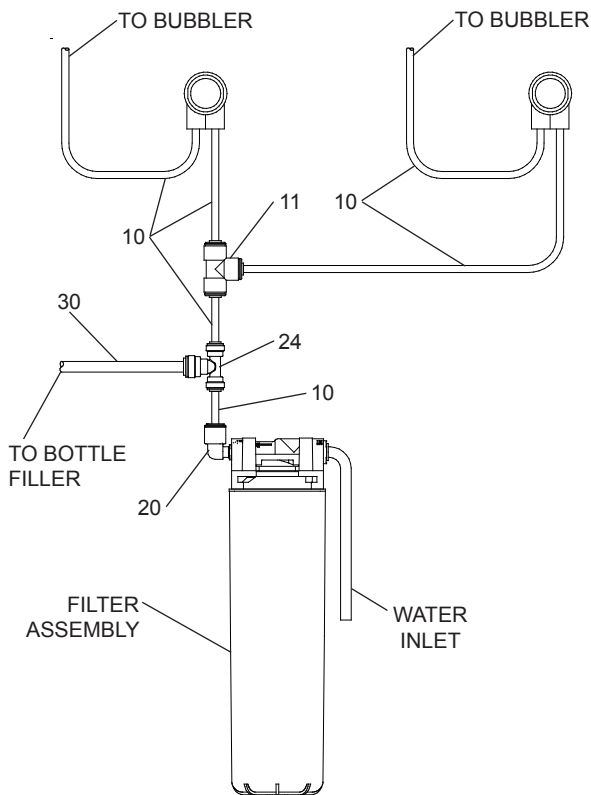

Figure 3 - HTHBWF-HRFSEBP-I Tube Routing
3. (For HTHBWF-HRFSEBP-I) **Install** the filter head to the bracket, then install filter bracket on mounting frame (Fig. 8), plumb from the filter outlet using the 1/4" elbow, poly tubing and 1/4 x 1/4 x 3/8" tee, install filter (Fig. 3).